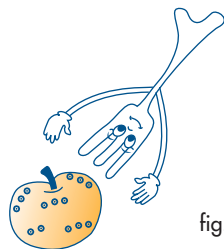

fig. 4
- 4) **Pierce foods with skins, shells or peel (eg. apples, potatoes, tomatoes, frankfurters, fish, etc.) with a fork at several points to allow steam to escape from inside. This prevents these foods from exploding inside the oven (see fig. 4).**